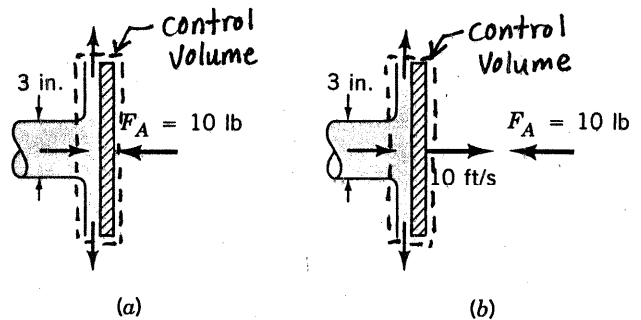

FIGURE P5.65
5.65 A 3-in.-diameter horizontal jet of water strikes a flat plate as indicated in Fig. P5.65. Determine the jet velocity if a 10-lb horizontal force is required to (a) hold the plate stationary, (b) allow the plate to move at a constant speed of 10 ft/s to the right.